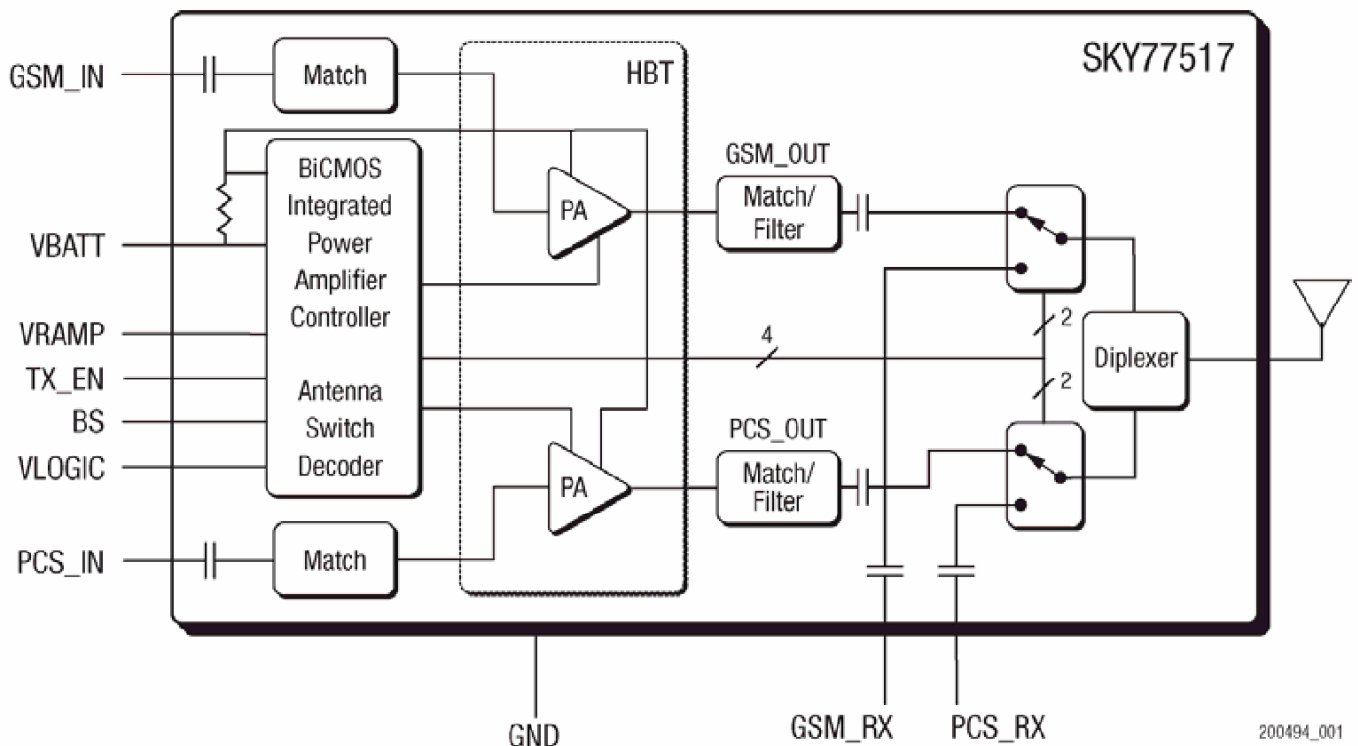

Figure.3-2-2 SKY77518 FUNCTIONAL BLOCK DIAGRAM
Band selection and control of transmit and receive modes are performed using two external control pads. Refer to the functional block diagram in Figure.3-2-2 below. The band select pad (BS) selects between GSM and PCS modes of operation. The transmit enable (TX_EN) pad controls receive or transmit mode of the respective RF switch (TX = logic 1). Proper timing between transmit enable (TX_EN) and Analog Power Control (VRAMP) allows for high isolation between the antenna and TX-VCO while the VCO is being tuned prior to the transmit burst.